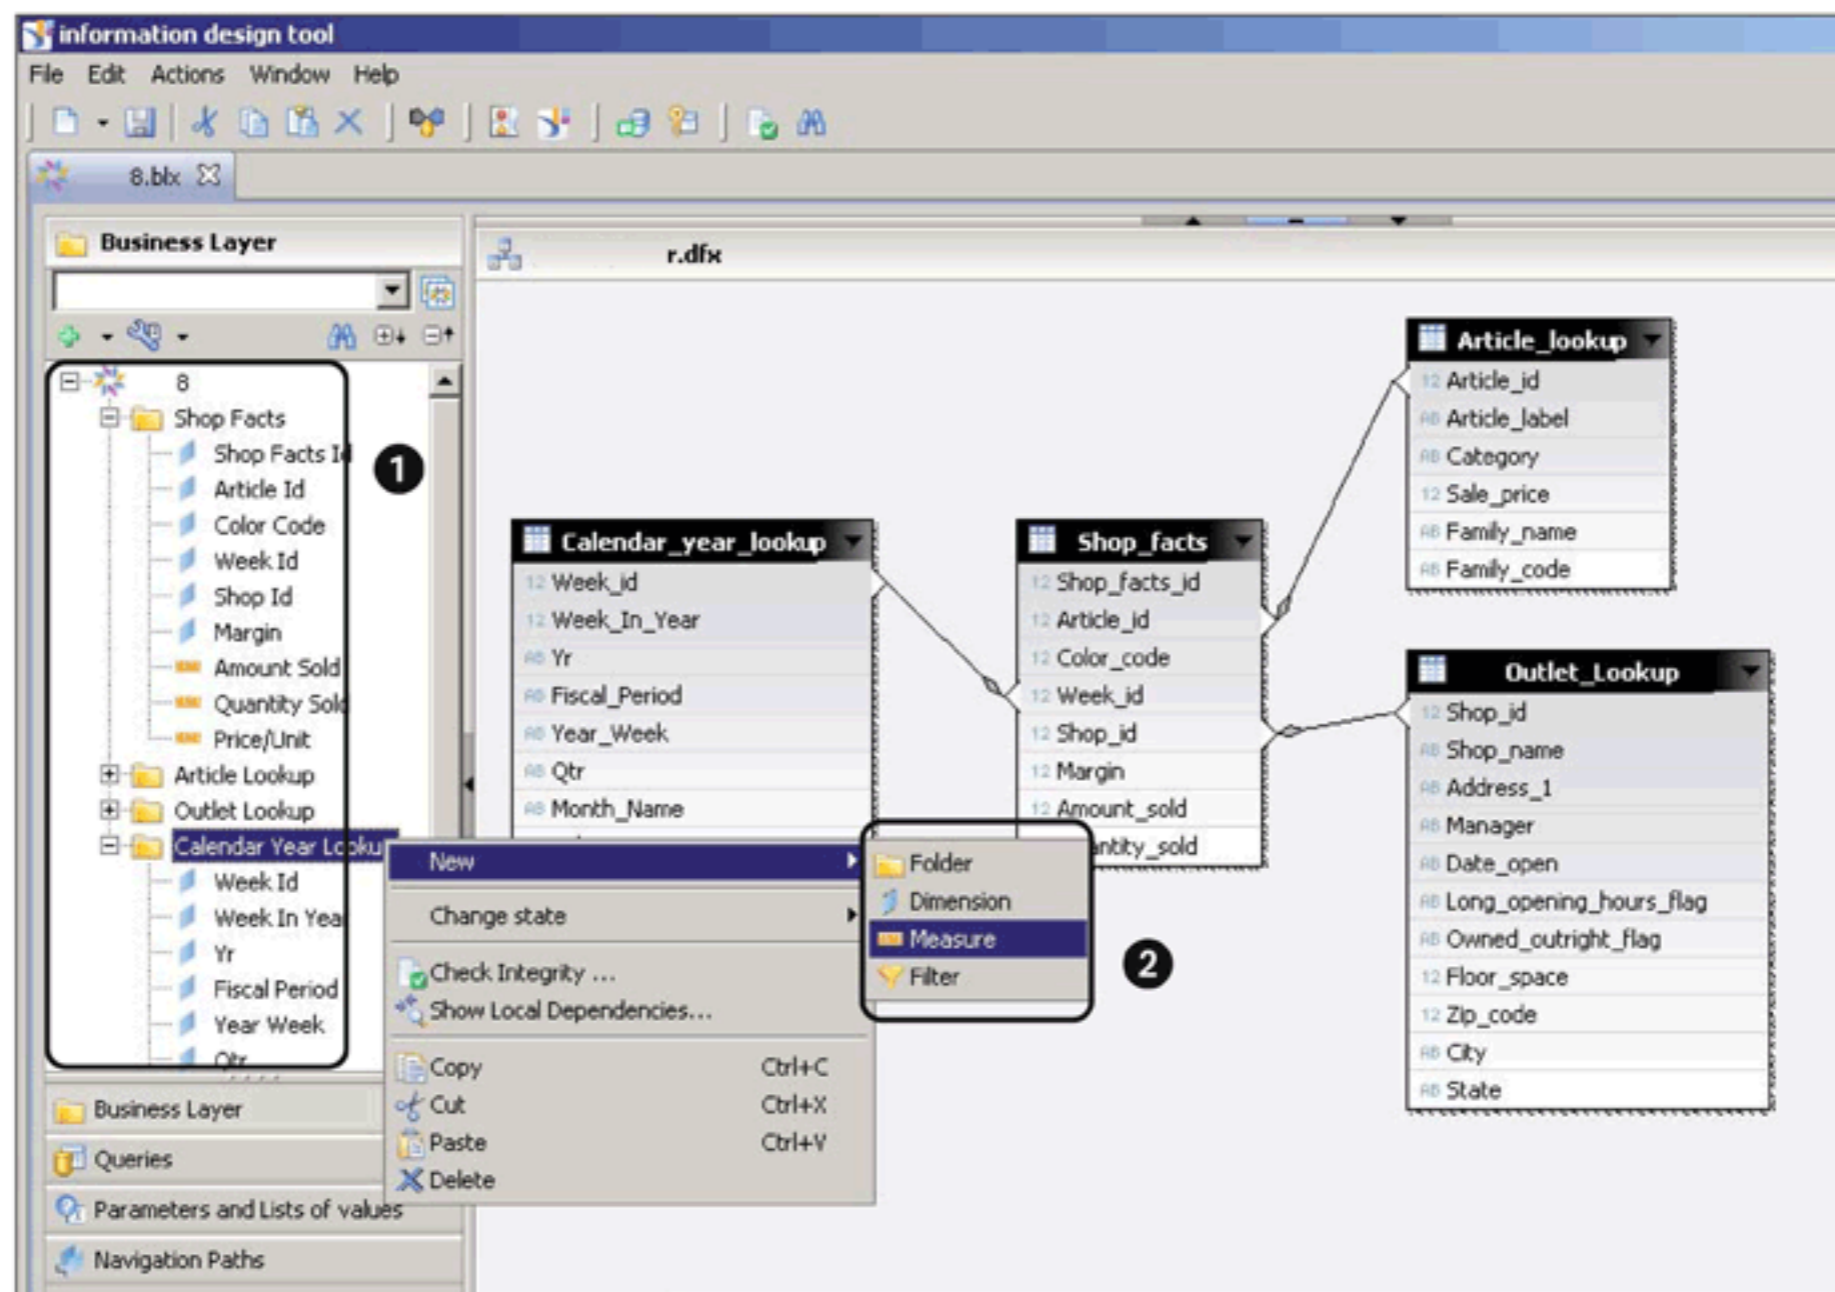

Figure 13.6 Configure the Business Layer
The next step is to create the business layer on top of the data foundation; this layer will be visible to users. Since the data is already merged in the data foundation, the creation of the business layer is not directly linked to the data sources or original source tables. All of the fields included in the data foundation are available in the business layer (❶ of Figure 13.6).
While defining the business layer, you can choose fields and set them as dimensions (*characteristics*, in SAP NetWeaver BW terminology) or measures (*key figures*, in SAP NetWeaver BW terminology). In addition to the available fields from the data foundation, you can also choose to create additional folders, measures, dimensions, or filters (❷ of Figure 13.6).